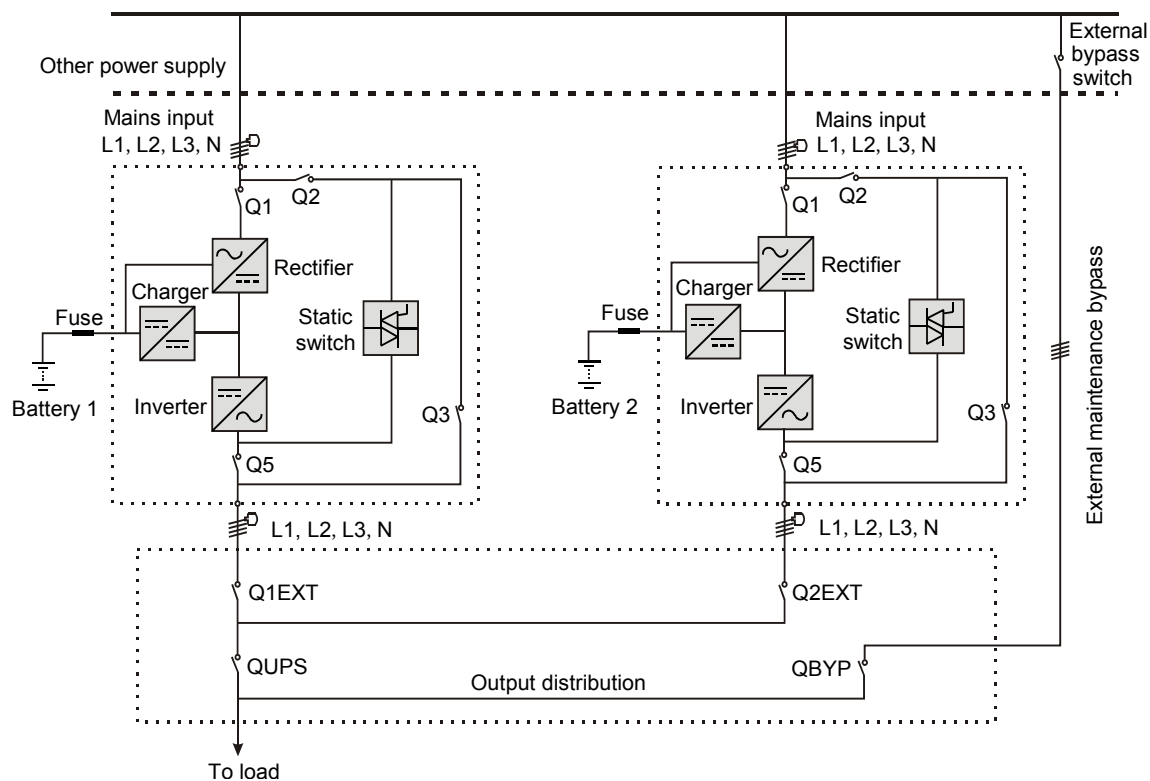

Figure 7-2 Schematic of typical parallel system (with common input, separate batteries and output)
2. Place the UPDs and interconnect them according to Figure 7-2. The output distribution mode (Q1EXT, Q2EXT must be configured) shown in Figure 7-2 is recommended to facilitate maintenance and system testing.